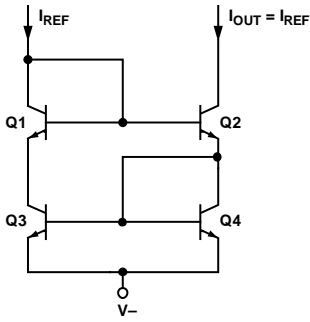
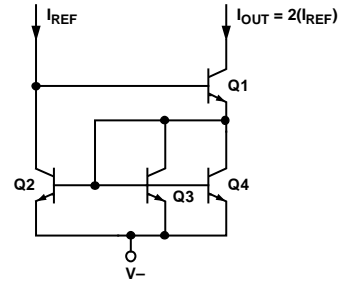
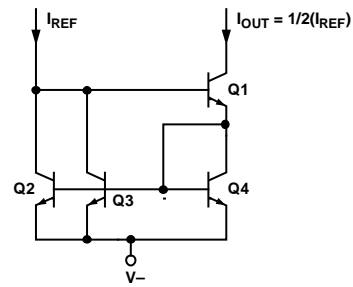

Figure 15. Unity-Gain Current Mirror, $I_{OUT} = I_{REF}$
Figure 16. Current Mirror, $I_{OUT} = 2(I_{REF})$
Figure 17. Current Mirror, $I_{OUT} = \frac{1}{2}(I_{REF})$
MAT14 can be used to implement a variety of high impedance current mirrors as shown in Figure 15, Figure 16, and Figure 17. These current mirrors can be used as biasing elements and load devices for amplifier stages.
The unity-gain current mirror shown in Figure 15 has an accuracy of better than 1% and an output impedance of more than 100 M Ω at 100 μ A.
Figure 16 and Figure 17 each show a modified current mirror; Figure 16 is designed for a current gain of two (2), and Figure 17 is designed for a current gain of one-half ($\frac{1}{2}$). The accuracy of